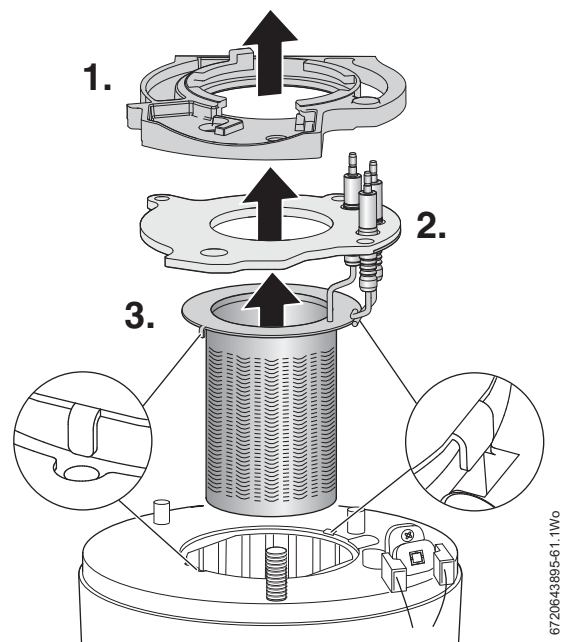

Fig. 101 Electrode assembly and burner
- Refer to figure 101 and disconnect spark electrodes and flame sensor connection.
- Ensure that burner tabs, as shown in figure 101, fit correctly their respective locations.